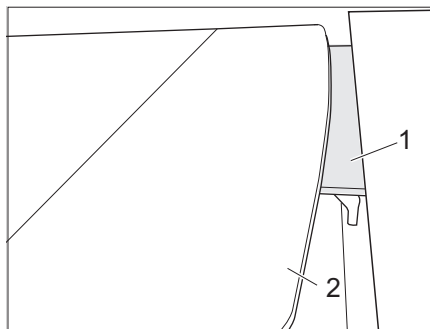

Fig. 112 Lowering the table
- Swivel the table-top (Fig. 112,2) down onto the support edge (Fig. 112,1).